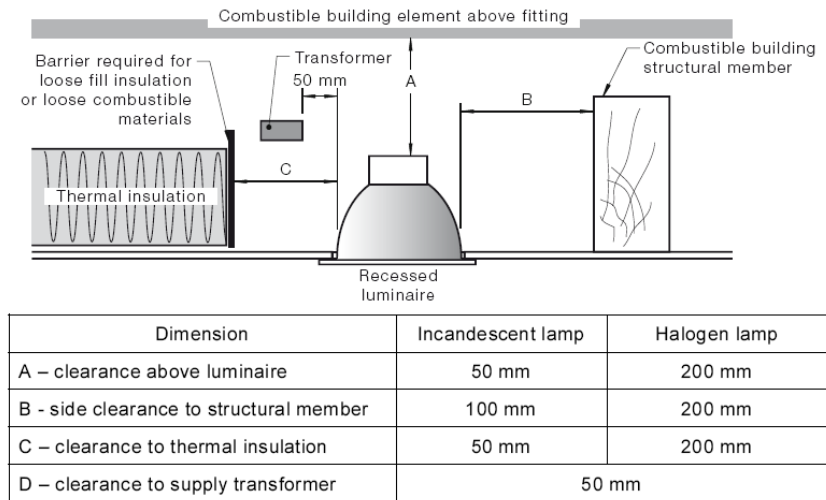

FIGURE 4.7 DEFAULT MINIMUM CLEARANCES FOR RECESSED LUMINAIRES
Regulation 62 calls up AS 3000. Clause 4.5.2.3 Recessed luminaires, and Figure 4.7 Default minimum clearances for recessed luminaires, are especially relevant to this type of work.
- Figure 4.5 is replaced with figure 4.7 of AS/NZS 3000:2007;
- d) Provision of the default clearances from combustible and thermal insulating material as specified in Figure 4.7.
Where thermal insulation is of a type that is not fixed in position, e.g. loose fill, a barrier or guard constructed of fire-resistant material shall be provided and secured in position to maintain the necessary clearance (see Figure 4.7).
2. AS/NZS 60598.1 and AS/NZS 60598.2.2 detail the test method and the maximum surface temperatures permitted for recessed luminaires. These maximum temperature limits must be satisfied to permit any reduction in the default values of Figure 4.7.